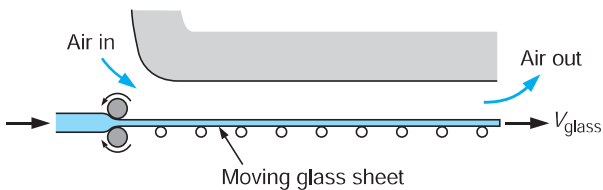

FIGURE P6.130
- 6.130** In a glass factory a 2-m-wide sheet of glass at 1500 K comes out of the final rollers, which fix the thickness at 5 mm with a speed of 0.5 m/s (see Fig. P6.130). Cooling air in the amount of 20 kg/s comes in at 17°C from a slot 2 m wide and flows parallel with the glass. Suppose this setup is very long, so that the glass and air come to nearly the same temperature (a coflowing heat exchanger); what is the exit temperature?